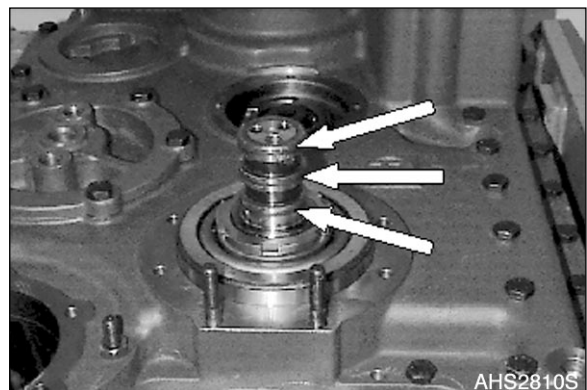

Figure 333
27. Grease and align rectangular rings (Figure 333) centrally.